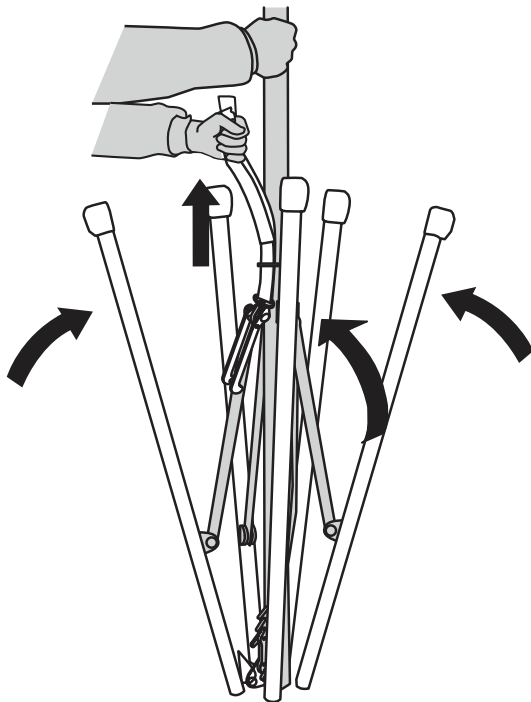

Figure 23. Pentapod Legs Stow Position
8. Continue pulling upward (Figure 23) on the velcro strap until all 5 pentapod legs are fully retracted and are in the stow position.